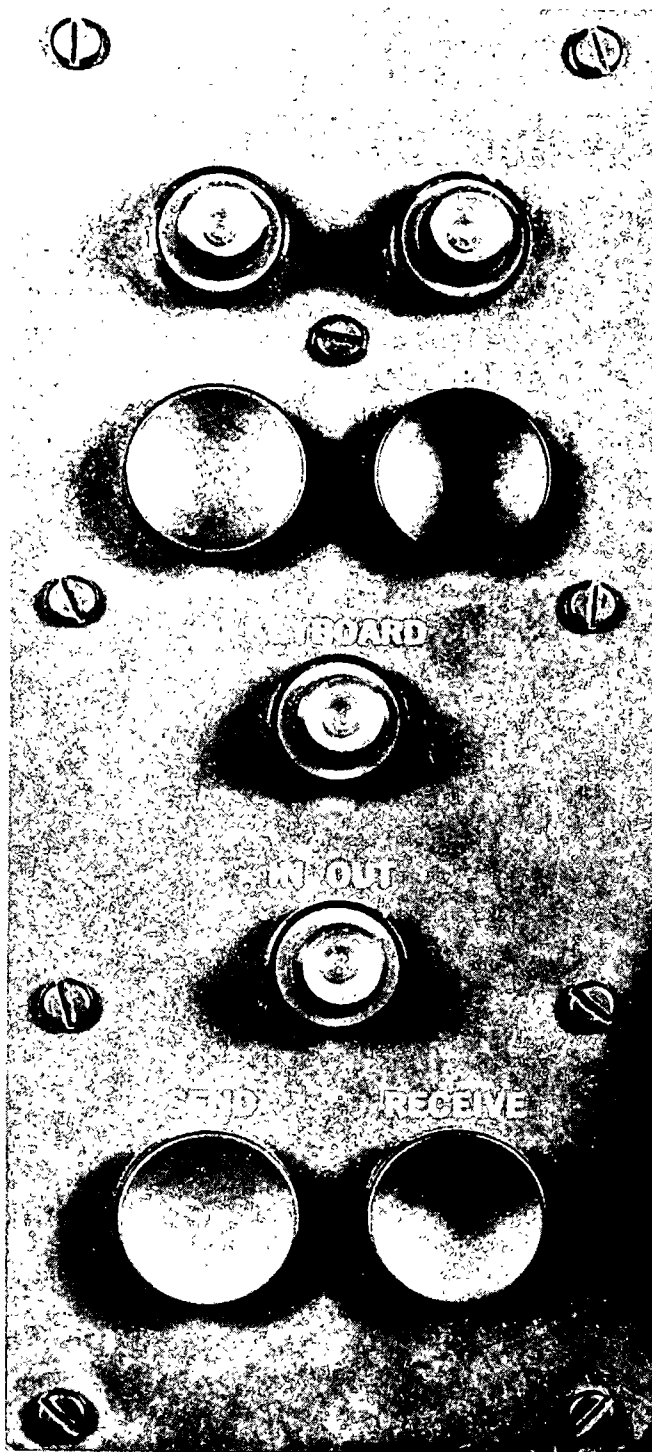

Figure 2-4. Operator panel.
c. *Operator Panel.* The operator panel (fig 2-4) in the lower center of the control panel has four buttons—TRIG, COMPUTE, SEND, and RECEIVE. The panel also includes four indicators which show the operator when the computer is in the compute or input-output mode or when a problem has no solution.